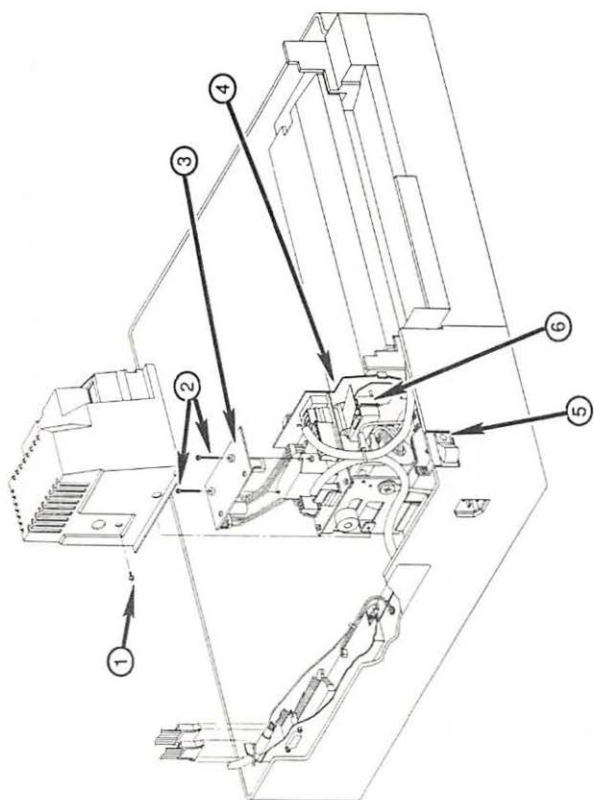

FIGURE 2-18
The power interlock assembly consists of the AC Driver PCB, which is a two-board assembly (see Figure 2-18, #3 and 4); the main power switch (see Figure 2-18, #5); and the two microswitches (see Figure 2-18, #6), which cut off power to the printer when the printer is opened (upper main body raised).
1. Remove the black flanged screw near the circuit breaker (see Figure 2-18, #1) and lift off the plastic assembly cover. The cover swings up and to the rear in an awkward manner, but don't worry -- just keep gently working at it and it will come off.
3. Remove the two fastening screws (see Figure 2-18, #2).